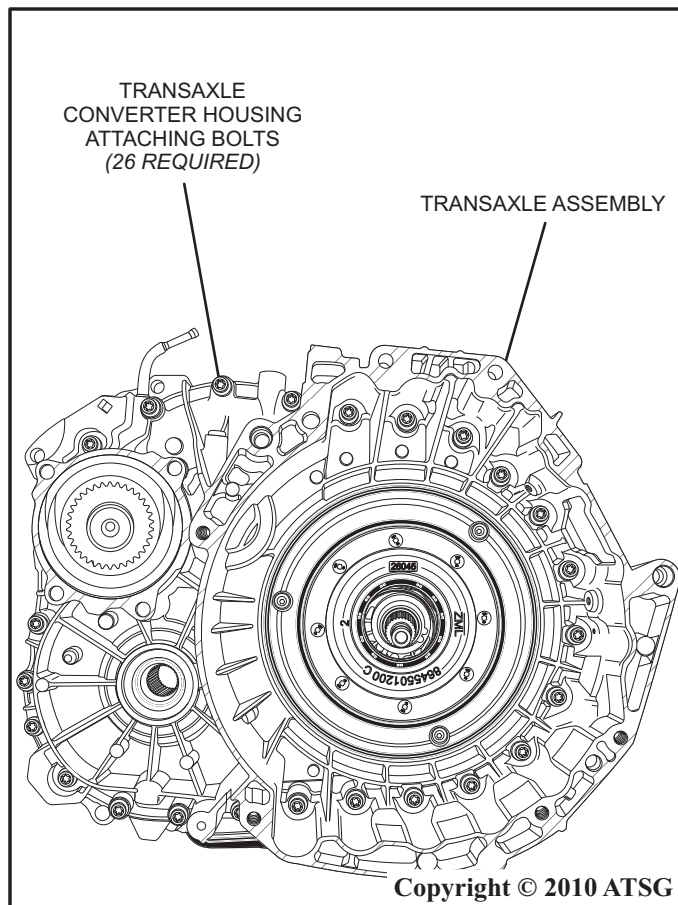

Figure 12
22. Using a #45 Torx bit, remove the transaxle converter housing attaching bolts (26 required) as shown in figure 12.